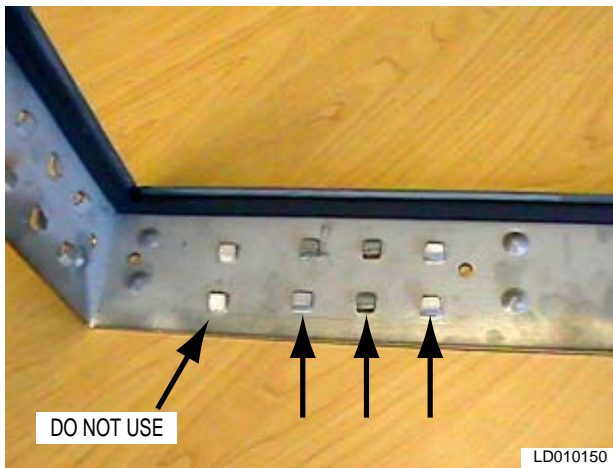

FIG. 4-28 – CORRECT USE OF KNOCKOUTS
- The latches should only be installed, two (2) per side of the frame. There should be no latches used on the top or bottom. This is done to match the holes in the filter frame, used to secure the latch to the filter. See Fig. 4-28 for the sets of knockouts that should be used for the latches.